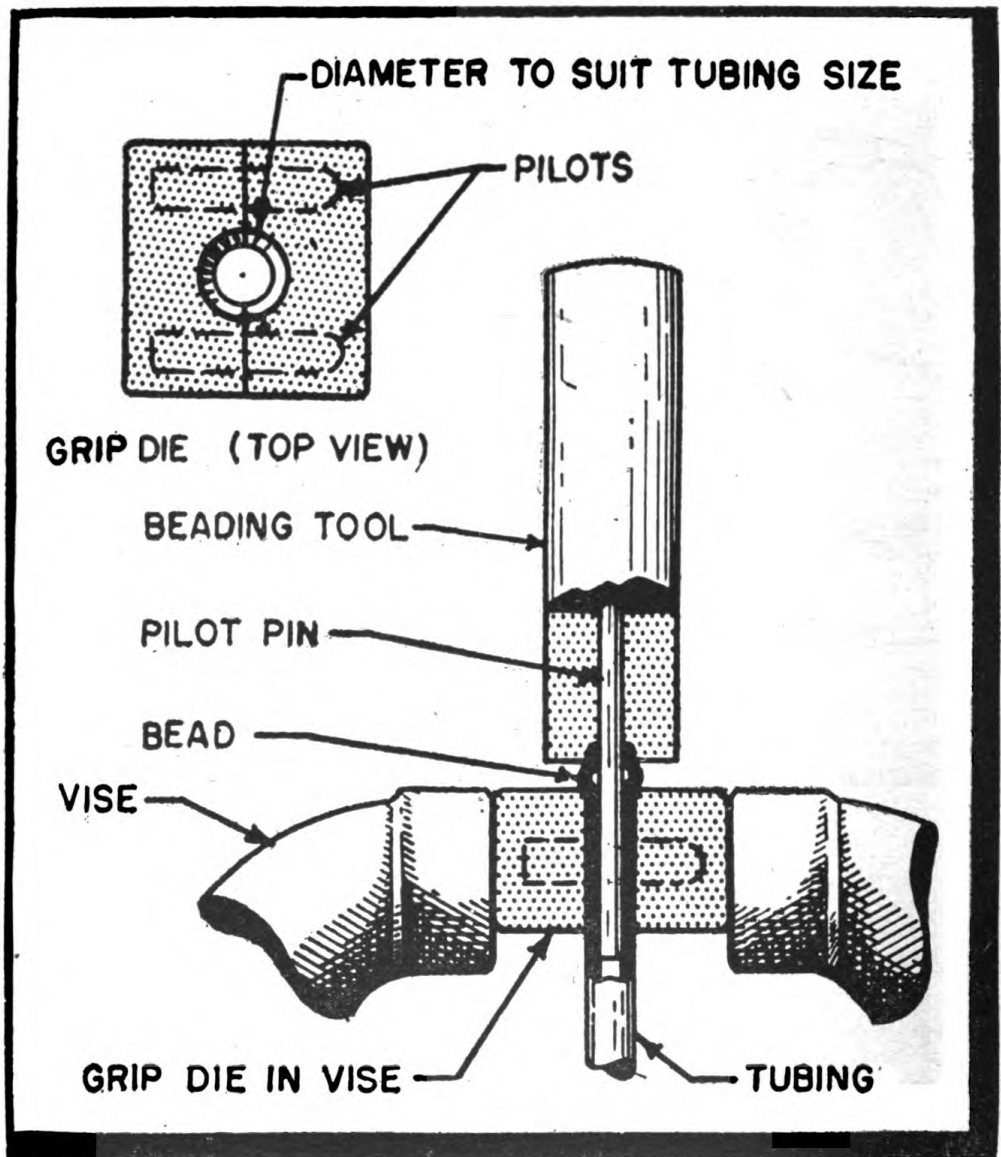

Figure 166. Tools for beading small tubing.
e. **TUBE-BEADING TOOLS.** Tubing-end hose connections and hose nipples have raised ridges (called beads) near the ends. These beads keep the clamp from slipping off the end of the tubing and thus prevent blow-off of the hose. Beading is usually done with beading tools, two types of which are shown in figures 166 and 167.
(1) The tool set shown in figure 166 is used for beading small tubing. It consists of a set of grip dies and a beading tool. The tubing is placed in the correct grip die and the die is clamped in a vise. (The tubing should extend approximately  $1\frac{1}{2}$  diameters above the die.) The pilot pin is then placed in the open end of the tubing and the beading tool is struck lightly with a hammer until the desired bead has been formed.